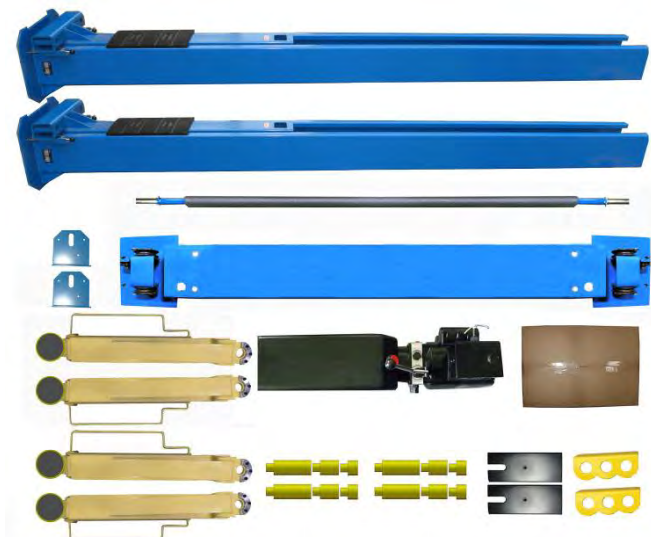

Fig. 6
5. Move aside the parts and check the parts according to the shipment parts list (See Fig. 6).